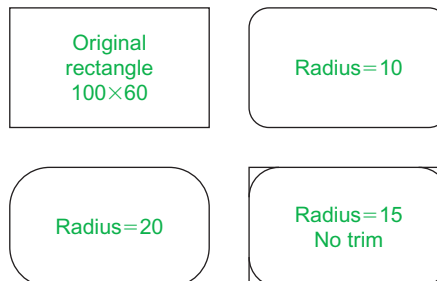

Fig. 5.42 Examples – **Fillet**
Examples – Fillet (Fig. 5.42)
1. Construct three rectangles 100 by 60 using either the **Line** or the **Polyline** tool (Fig. 5.42).
Three examples are given in Fig. 5.42.